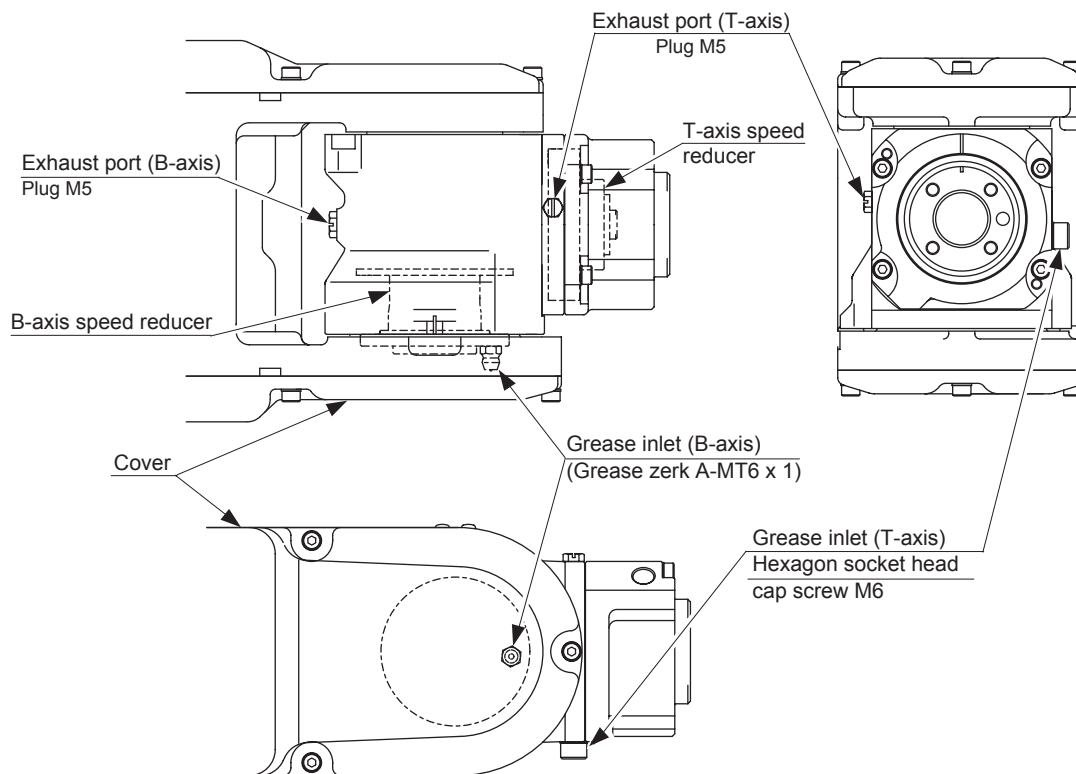

Fig. 27 B- and T-Axes Speed Reducers Diagram
■ Grease Replenishment for B-axis (Refer to " Fig. 27 B- and T-Axes Speed Reducers Diagram ".)
■ Grease Replenishment for T-axis (Refer to " Fig. 27 B- and T-Axes Speed Reducers Diagram ".)